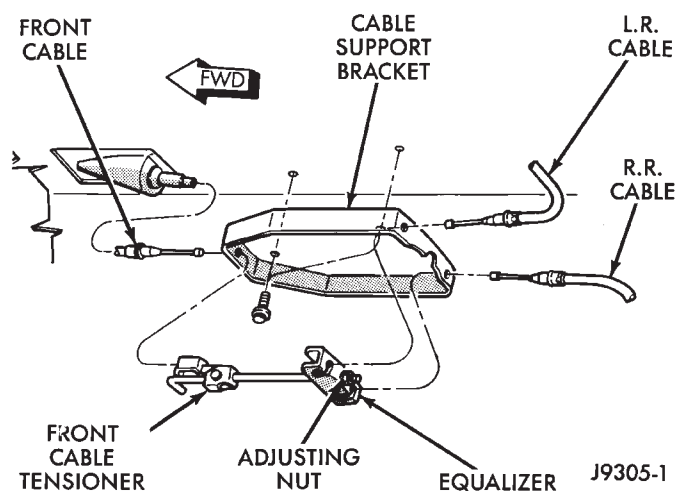

Fig. 44 Park Brake Cable Attachment
(1) Release parking brakes.
(2) Disconnect battery negative cable and raise vehicle on hoist.
(3) Remove front cable adjusting nut and disengage cable tensioner from equalizer. Then remove front cable from tensioner (Fig. 44).
(4) Disengage front cable from insert and insert from floorpan.
(5) Lower vehicle.
(6) Remove console, refer to Group 23 Body.
(7) Remove park brake lever.
(8) Disconnect front cable from parking brake lever and remove cable.